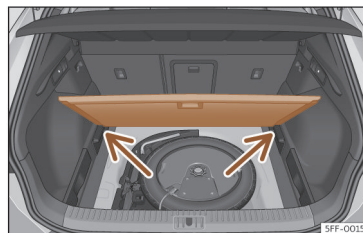

Fig. 178 Variable boot floor: tilted position.
- Rest the floor on its housings >>> Fig. 178 (arrows).